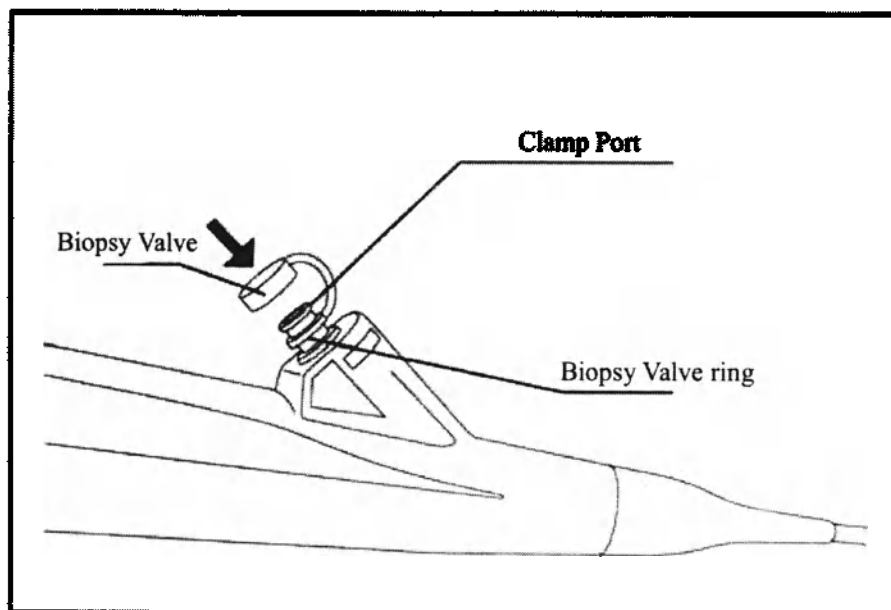

Fig 3.5
1. Install the Biopsy Valve into the feed line opening and push it into the head to secure it to the main body (as shown in Figure 3.5).